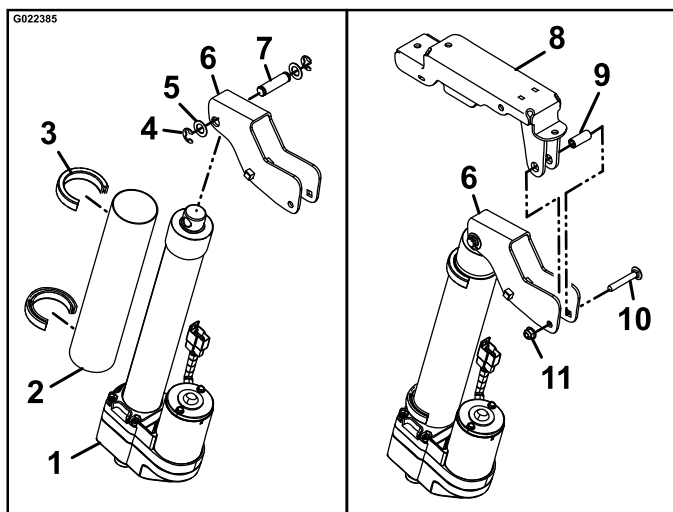

Figure 5
1. Install the heat-shield tube over the cylinder, and secure the heat-shield tube with the 2 pieces of Trim-lok (Figure 5).
- Align the actuator-link assembly hole with the top cylinder hole, and insert a clevis pin (5/16 x 1-49/64 inches) as shown in Figure 5.
- Insert a bushing spacer as shown in Figure 5 and secure the assembly with a carriage bolt (5/16 x 2 inches) and a flanged nyloc nut (5/16 inch).